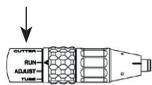

Figure 1
1. Rotate attachment lock sleeve to align arrow with "ADJUST" (Figure 1).
3. Rotate attachment lock sleeve to line up arrow with "RUN" (Figure 1).
1. Rotate attachment lock sleeve to align arrow with "CUTTER" (Figure 1).
3. Rotate attachment lock sleeve to align arrow with "TUBE" (Figure 1).
1. Confirm indicator bar on distal end of handpiece is aligned with unlock symbol (Figure 1) before attempting to install attachment. If not aligned properly, hold handpiece housing firmly with one hand and with other hand rotate distal end in direction of arrow to align indicator bar with unlock symbol.